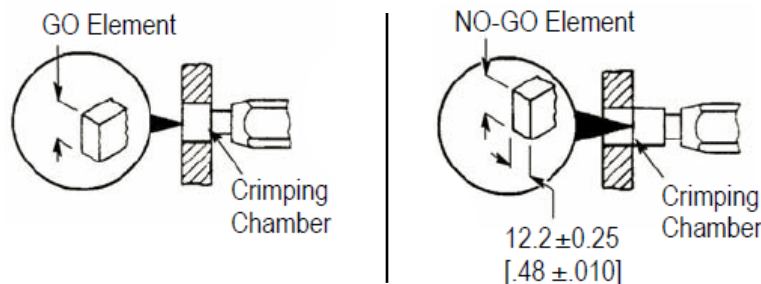

Figure 17c
4. Push the element straight into the crimping chamber without using force. The GO element must pass completely through the crimping chamber as shown in Figure 17c.
5. Align the NO-GO element and try to insert it straight into the crimping chamber. The NO-GO element may start entry, but must not pass completely through the crimping chamber, as shown in Figure 17c.